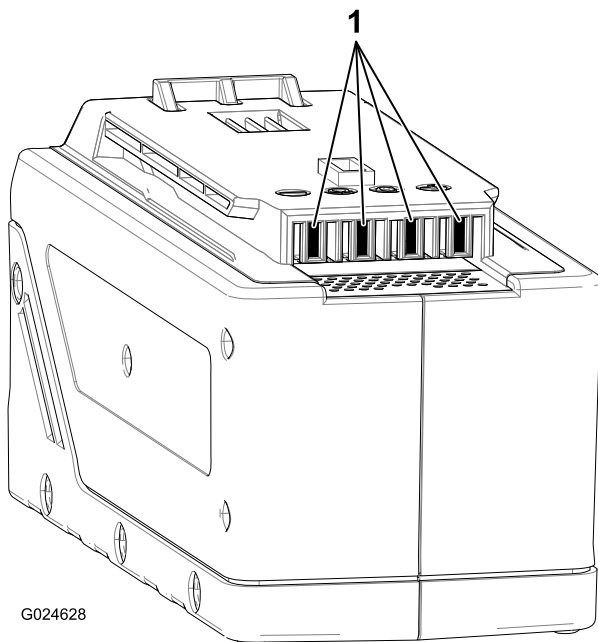

Figure 11
**Note:** If you have trouble removing the battery, apply some dielectric grease to the battery terminals (Figure 11). **Do not** use any other type of lubricant as it can cause damage to the terminals.